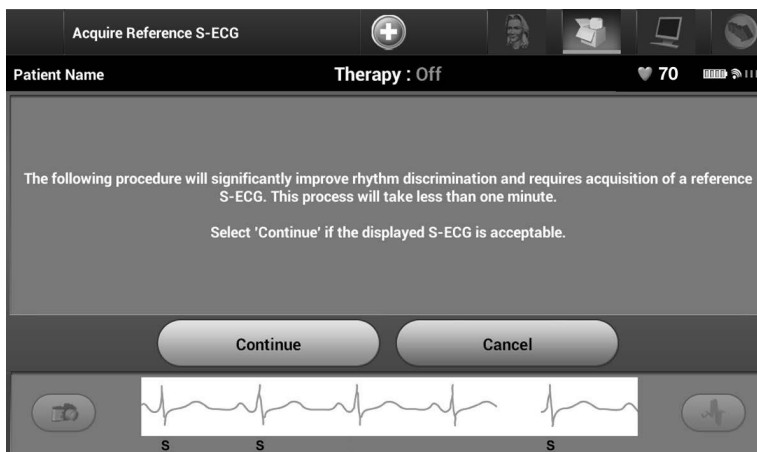

Figure 28: *Acquire Reference S-ECG screen*
8. Following the optional optimization process, the Acquire Reference S-ECG screen is displayed (Figure 28). Select the Continue button to acquire a reference S-ECG.